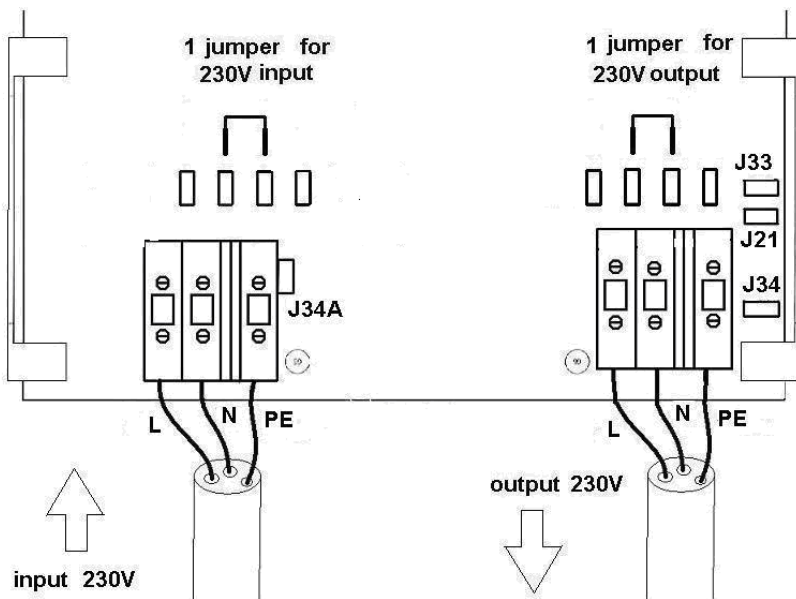

Figure 2: Jumper settings for 230/240 V input and/or output
2.2.2 Other models: for 230/240 V input and/or output, connect the push-on jumpers as shown in fig 2.